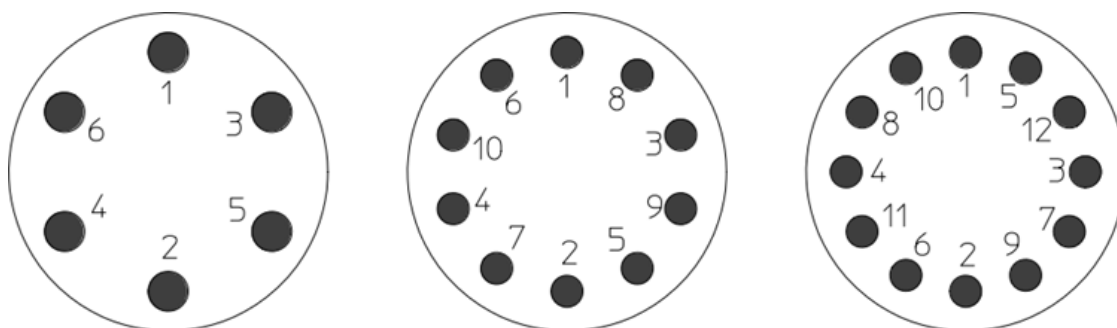

Figure 1: Diagram of tightening order depending on the number of screws at the lashing point
1. be tightened crosswise, as shown in figure 1, using an hammer wrench / impact spanner and a tightening torque of 500Nm.